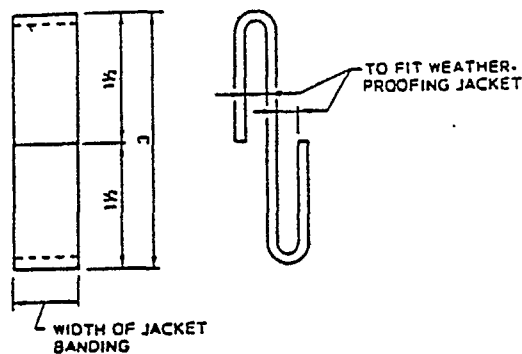

FIGURE 4 - "S" CLIP
- d. Support the bottom course on vertical vessels using welding studs and caps. A minimum of two studs shall be used through each sheet. Owner will provide studs installed on not more than 14-inch centers and installer of jacket shall provide caps. Support the other courses with "S" clips fabricated from 1-inch-wide x 0.030-inch-thick stainless steel, Type 302 or 304 material per Figure 4. Space "S" clips on centers not to exceed 14 inches.